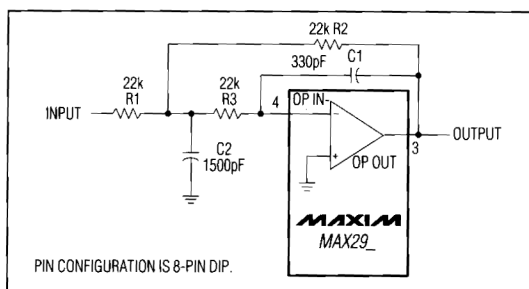

Figure 4. Uncommitted Op Amp Configured as a 2nd-Order Butterworth Lowpass Filter ($F_0 = 10\text{kHz}$)
The uncommitted op amp has its noninverting input connected to the GND pin, and can be used to build a 1st- or 2nd-order continuous-time lowpass filter. This filter is intended for anti-aliasing applications preceding the switched-capacitor filter, but it can be used as a post-filter to reduce clock noise. Figure 4 shows one of many filters that can be built with this op amp: a 2nd-order Butterworth filter with a 10kHz corner frequency and an input impedance greater than 22k Ω . Table 1 gives alternative component values for different corner frequencies of the same Butterworth filter.
Table 1. Component Values for Figure 4's Filter
As the passband ripple of the MAX293/MAX294/MAX297 elliptic filters is of the order of $\pm 0.1\text{dB}$, it is normally appropriate to keep the passband errors of any anti-aliasing filter at or below this level. This is achieved by choosing the corner frequency of Figure 4's Butterworth filter (f_{cB}) to be higher than the corner frequency of the elliptic switched-capacitor filter (f_{cE}) by a factor of 2.5 or more. A factor of 5 or more is recommended to avoid problems with component tolerances, i.e. $f_{cB} > (5)(f_{cE})$.